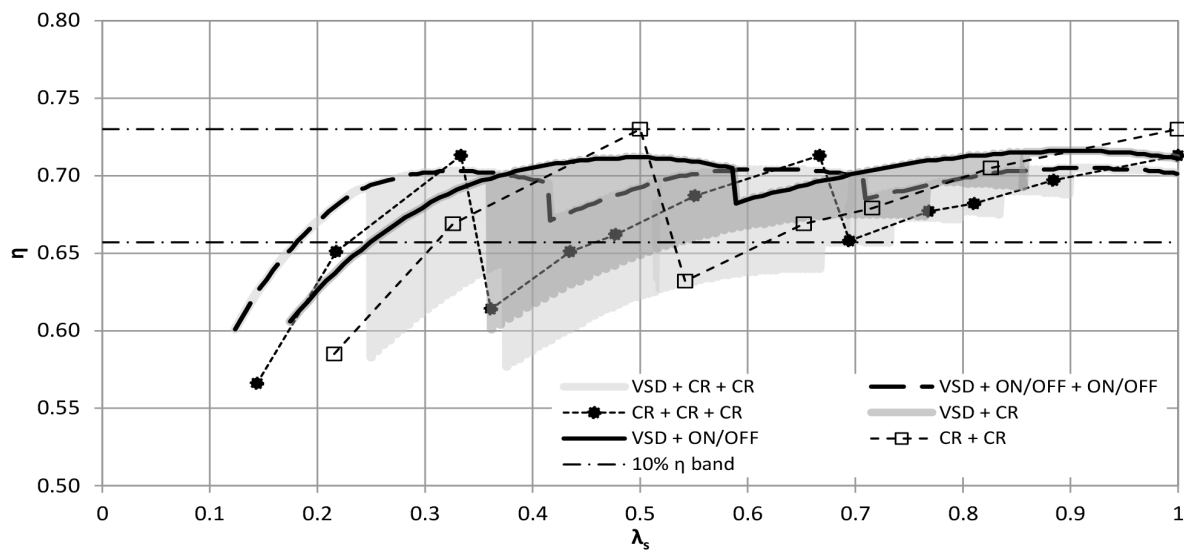

Figure 6. Comparison of part load efficiency for package with two or three compressors.
Figure 6 compares a solution with either two or three compressors. Again, solutions with VSD evidently have a constant high efficiency. The solution with three compressors (one VSD) can even keep very high efficiency down to approximately 17% capacity. Furthermore, a three-compressor solution with only slide regulation (CR) has a high efficiency down to approximately 23% capacity, except from a minor load area around 37– 43%.